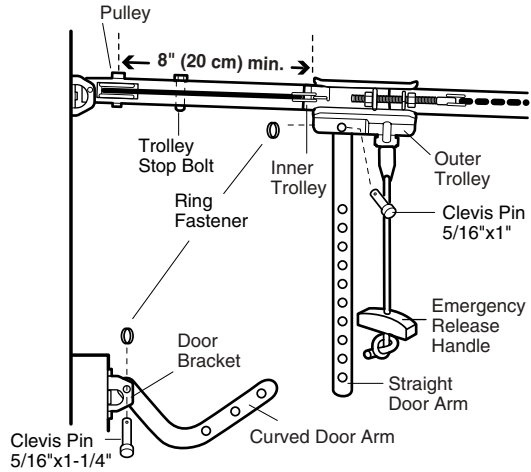

Figure 1
- Make sure garage door is fully closed. Pull the emergency release handle to disconnect the outer trolley from the inner trolley. Slide the outer trolley back (away from the pulley) about 8" (20 cm) as shown in Figures 1, 2 and 3.
• **Figure 1:**